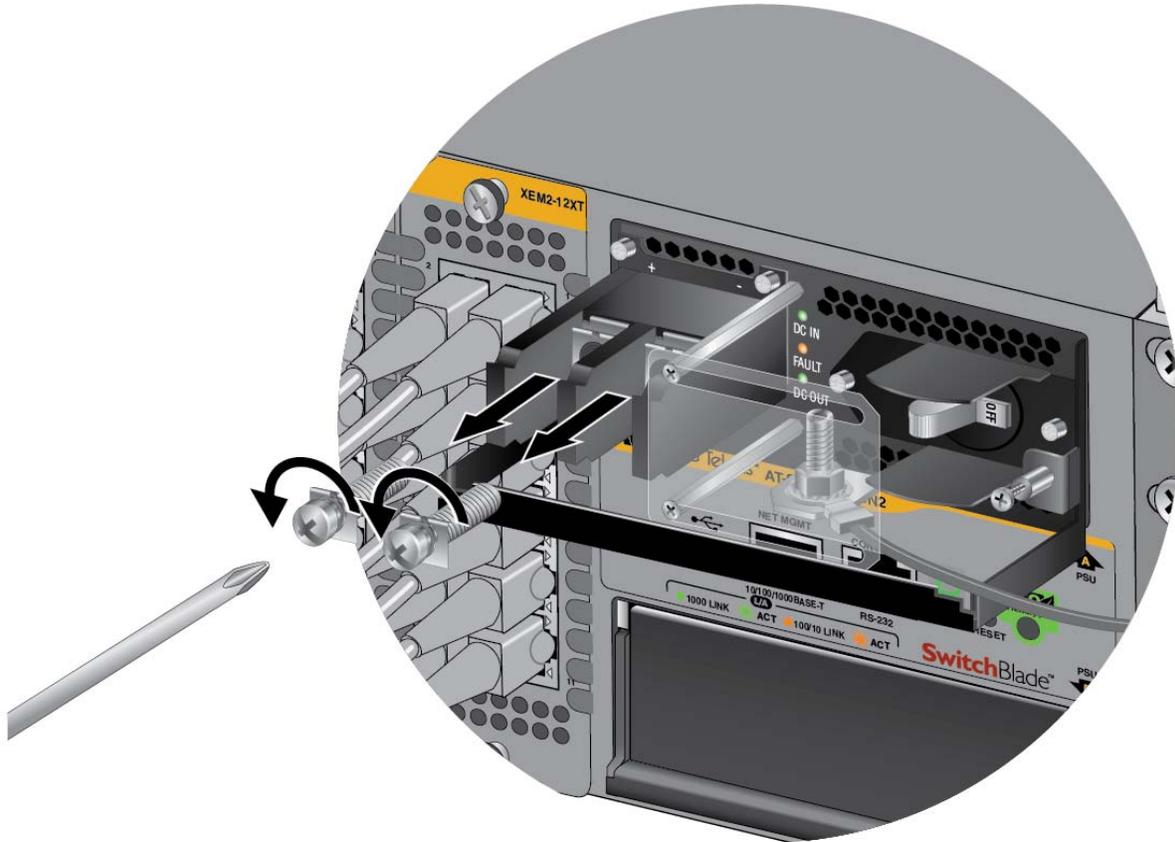

Figure 82. Removing the Terminal Screws
5. Use a #3 Phillips-head screwdriver to remove the two screws from the positive and negative terminals, as shown in Figure 82 on page 134.
3. Use a #3 Phillips-head screwdriver to remove the two screws from the positive and negative terminals, as shown in Figure 82 on page 134.